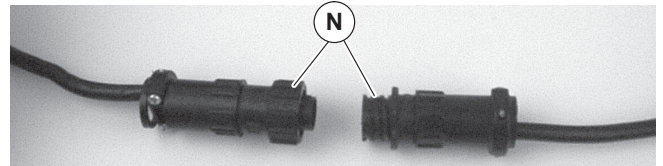

Figure 8
3. For DC variable speed motor, unplug motor cord at disconnect (Figure 8, item N).